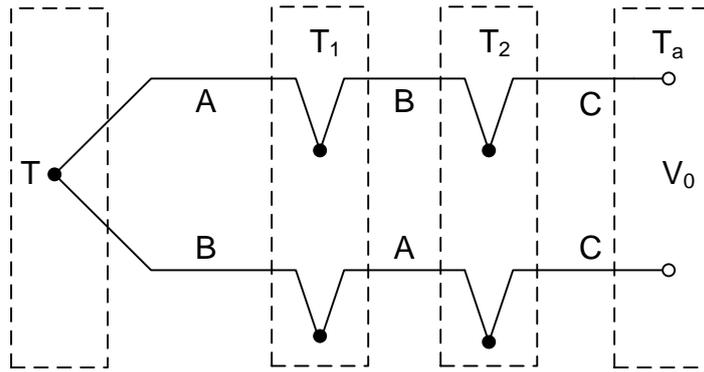

Figure 4: Simulate reference junction at 0°C .
- (5p) (e) Figure 4 shows a circuit in which three types of wires (A, B, C) are combined into several thermocouples with two intermediate temperatures T_1 and T_2 and a temperature T at the measurement junction. What relation must T_1 and T_2 have such that the output voltage only depends on T ?